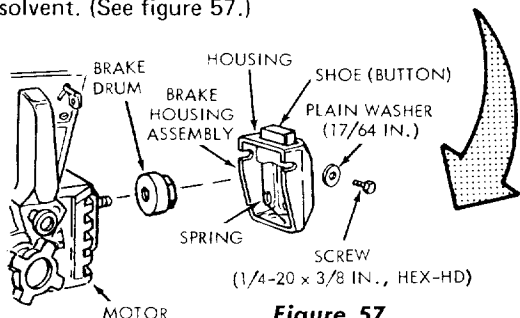

Figure 57
Remove the brake housing assembly and clean all parts of brake assembly with commercial cleaning solvent. (See figure 57.)
- (1) Disconnect the saw from power source.
- (2) Remove two screws and plain washers that attach the brake housing (figure 57) to motor housing.
- (3) Lift off the brake housing assembly.
- (4) Inspect the brake drum and brake shoe (button) for scoring on braking surfaces and excessive wear. Replace worn or scored items.
- (5) Check the spring (figure 57) and replace if broken or too weak to hold the shoe against top of housing (button protruding).
- (6) If removal of the brake drum is required, use the arbor wrench to screw it off end of motor shaft.
- (7) Installation is in exact reverse of removal.